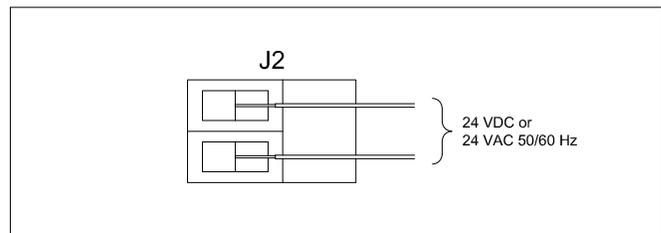

Figure 5
**NOTE:** If rewiring of connectors is required, see Figure 5 or 6 for wire control power supply terminals. J2 connector is for 24V AC/DC, 100 mA and J4 connector is for 120V or 240V, 100 mA. Use only 18–26 AWG copper wire rated for 90°C for connections.